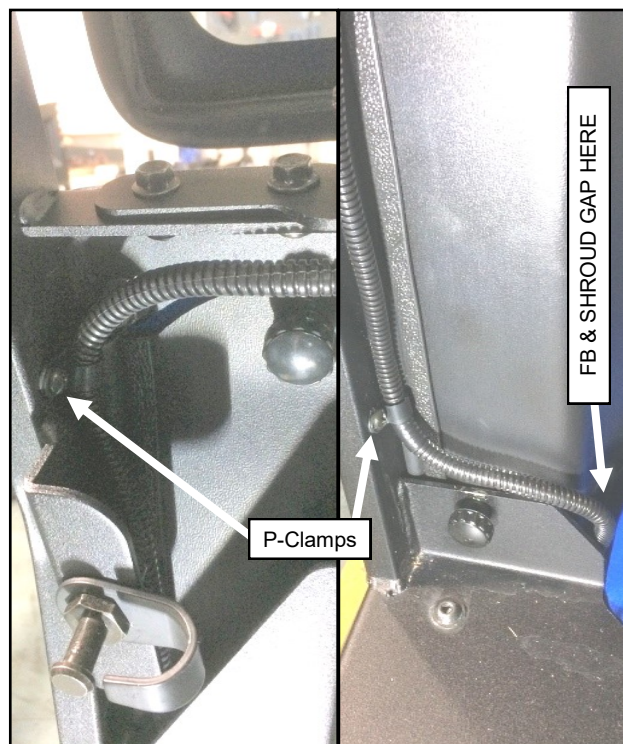

Fig. 10.3 (Secure Harness to Side Frame)
- 10.3** Run the wire harness over to and down the left side frame through the gap between the floorboard and intake shroud. Secure it in (2) places along the side frame using P-clamps and self-drilling screws. See Figure 10.3.